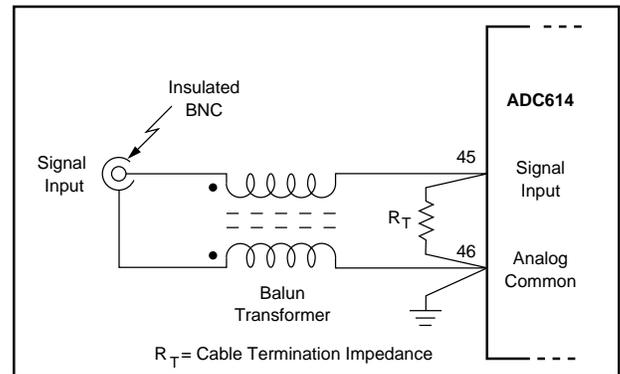
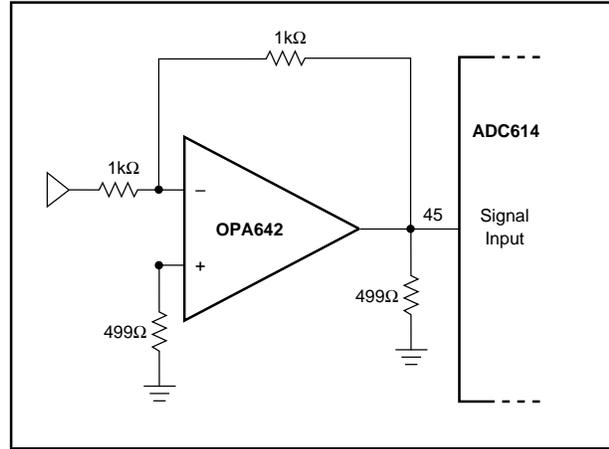

FIGURE 6. Floating-Input Balun Transformer.
FIGURE 8. Single Ended Input Amplifier (Gain = -1V/V).
9. Floating inputs can eliminate ground-loop noise. A simple common-mode choke shown in Figures 6 and 7, or a single-ended amplifier (Figures 8 and 9) can be used for gain. Optimized harmonic performance can only be achieved with a very low distortion buffer. Burr-Brown OPA642 is an ideal op amp for driving the ADC614.